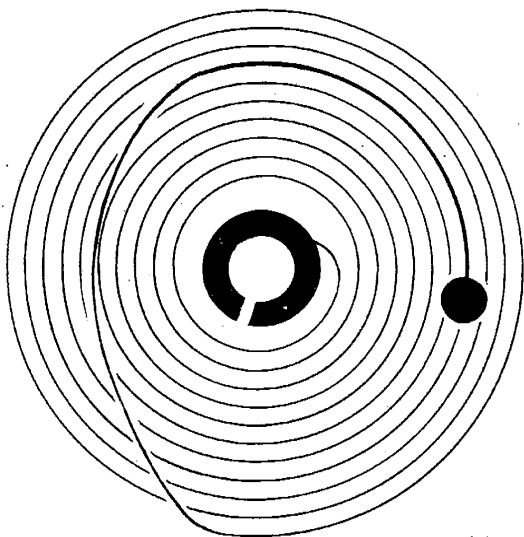
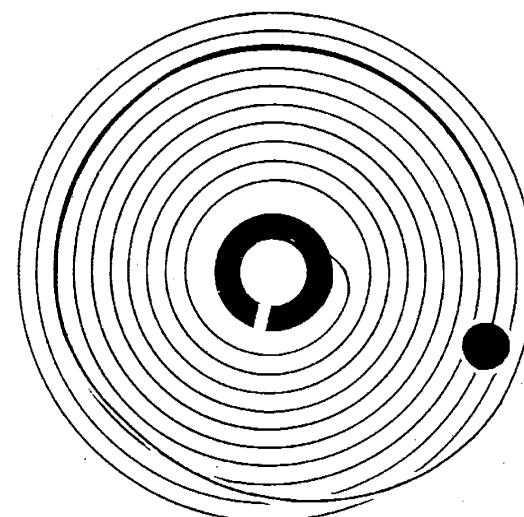

Fig. 19-1
Fig. 19-4
1. Form an overcoil on a practice hairspring, using Fig. 19-4 as a pattern and Job Sheet L19-J1 as a guide. For this practice work make the regulation arc follow the third coil from the outside.
Figures 19-1 through 19-8 show a few of the many forms and shapes an overcoil may take. Not all are found in the modern watch. Several of these shapes, figures 19-4, 19-7 and 19-8, are more or less basic patterns of overcoil in use today.
No matter what shape of overcoil is used, one section is just about the same in all. This is the part just before the stud. This section must pass through the regulator pins in the watch. The regulator pins are at a fixed distance from the balance hole jewel. When the pins move, they can move only in a circular path. So this section of the spring which moves between the pins must always be a part or arc of a circle. For this reason, it is usually called the regulator arc or regulator circle. Note in figures 19-1 through 19-8 how much alike this section is. Its shape stays the same no matter which coil it follows, where the stud is, or how long or what shape the section raised over the body of the spring actually is.